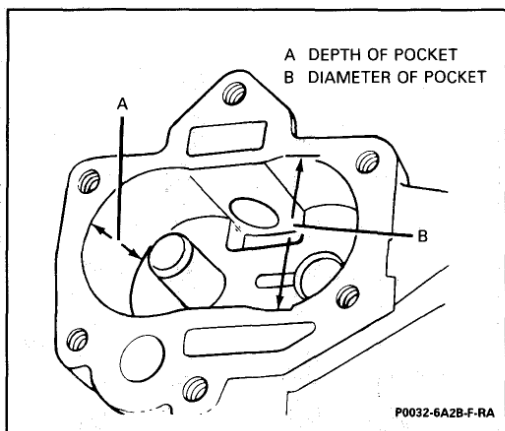

Figure 45 Measuring Oil Pump Gear Pocket
- Pump housing gear pocket (Figure 45).